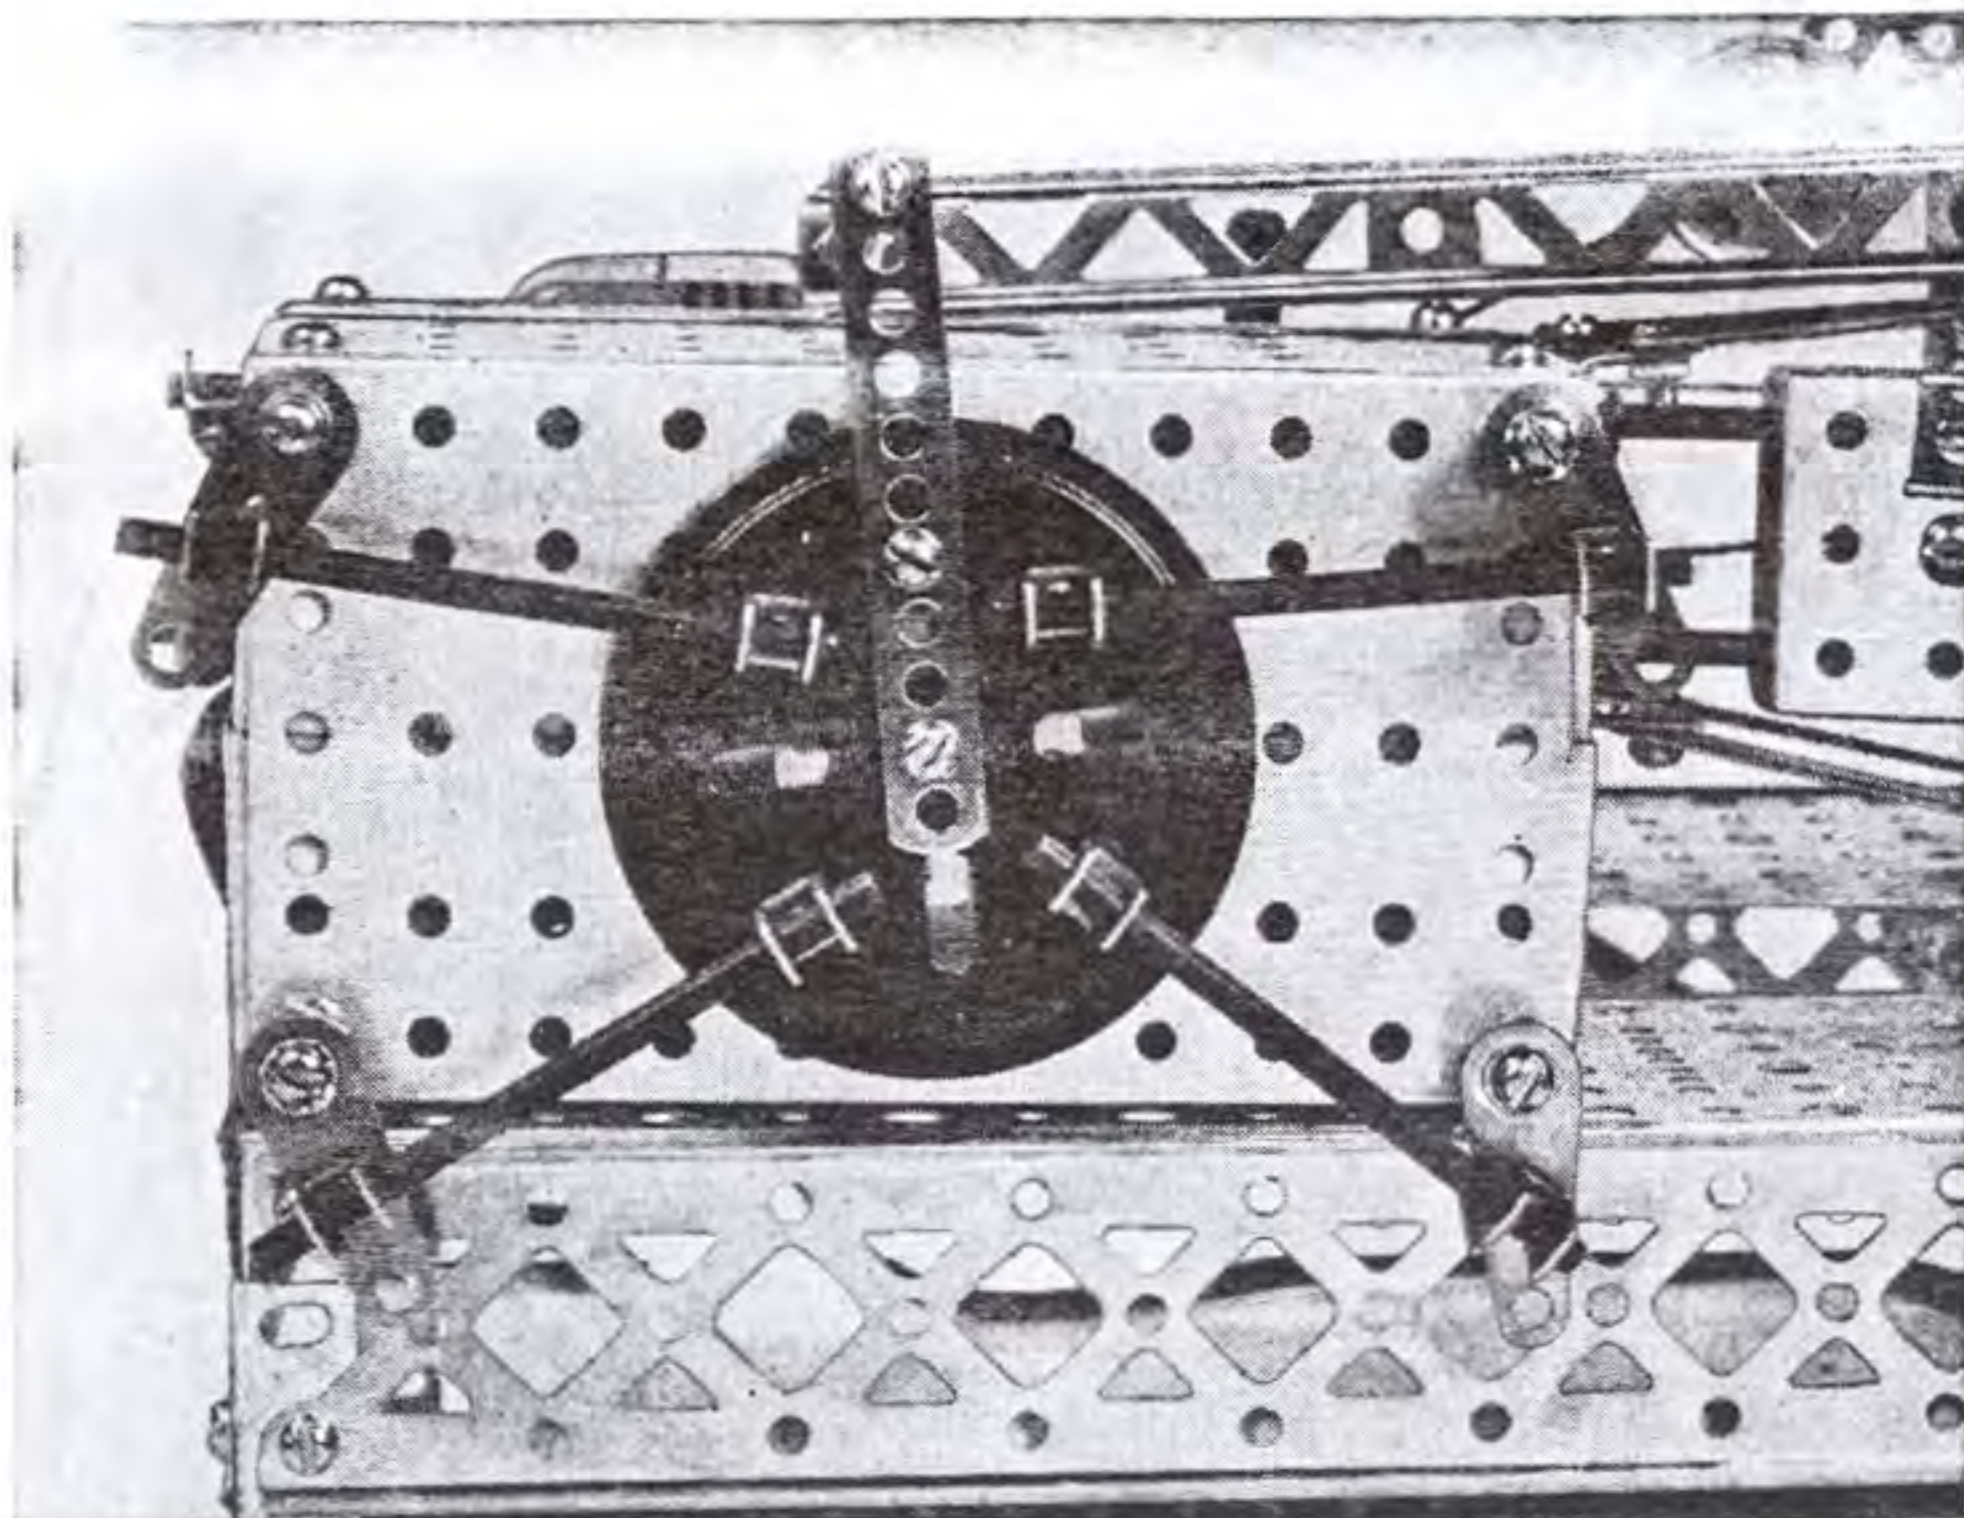

FIGURE 3
steam cylinder is built with (MD)  $2\frac{1}{2}$ " x 5" base plates for sides and 2 (MF) 1" x 5" base plates on top. The ends are made with 2 (MC) 1" x  $2\frac{1}{2}$ " base plates. The box should be built separately with the valve mechanism fastened to it. The valve mechanism is a (BN) regular turret plate fastened to a (BT) pierced disc which is held to the side base plate with an S62  $\frac{7}{8}$ " x 8-32 screw so it is free to turn. Four (AA) eccentric cranks are fastened, one to each corner, of the side base plate with S62 screws. To the turret plate and eccentric cranks are fastened P37 collars and (AS)  $2\frac{7}{8}$ " axle rods—See Figure 3. A (BY) 11 hole fibre strip is fastened to the turret plate.